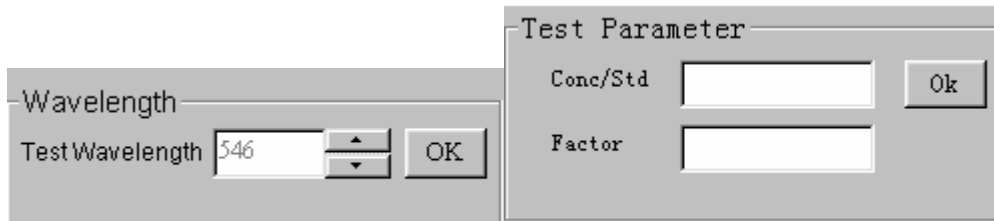
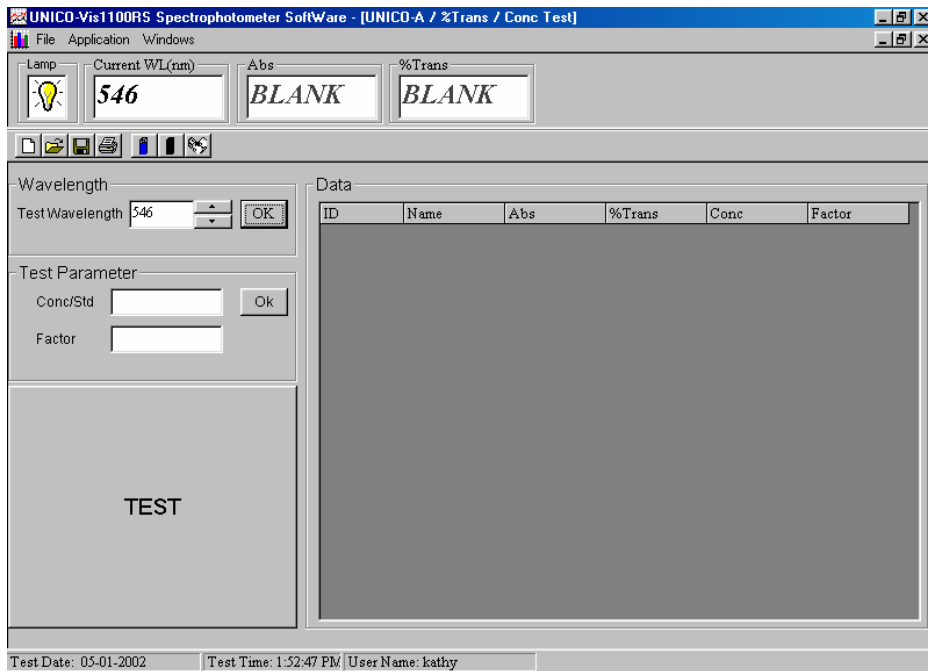

Figure-21 Test Wavelength and Test Parameter
Figure-22 Wavelength and Reference Setting
- Test Wavelength** Text Field: select the desired wavelength by moving the dial on the spectrophotometer and clicking  button on the PC screen, click **OK** button (Figure-21) at the right of  button to set the wavelength (Figure-22). The wavelength will be shown both in the Text Field below **Current WL (nm)** label and Text Field at the right of the **Test Wavelength** label.
- Test Parameter** Text Field: If standard is available, type the **concentration** values of the standard into the Text Field at the right of **Conc/Std** label, insert the standard into Sample Compartment and click the **OK** button. Spectrophotometer will take measurement of the standard and display factor value. The unknown sample concentrations can then be measured. If factor value is available, enter the factor value into the Text Field at the right of **Factor** label for the unknown sample concentrations calculation (Figure-21).